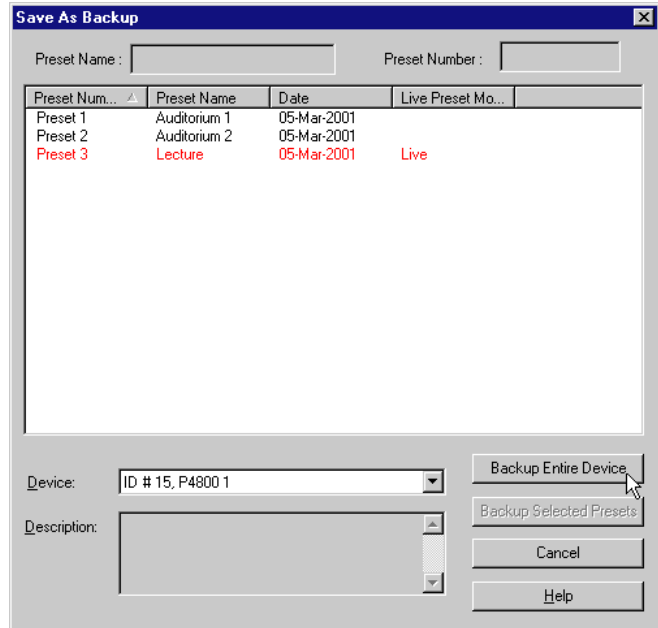

Figure 21 – Backup Device Dialog
5. The Backup Device dialog appears, as pictured on the right in figure 21.